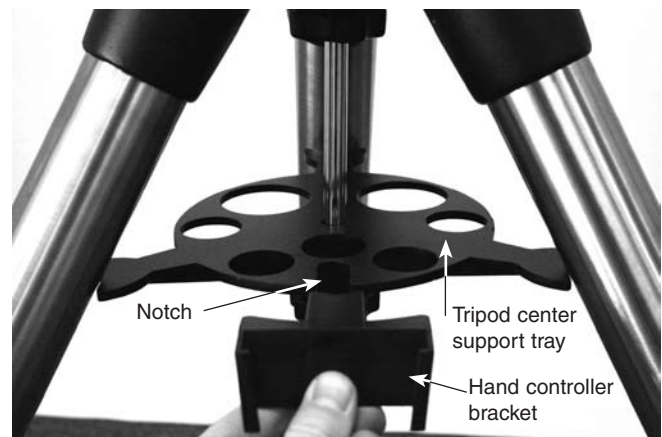

Figure 13. Installing the GoTo hand controller bracket
1. The included GoTo hand controller bracket attaches to the built-in notch in the tripod center support tray. To install the hand controller bracket, simply line up the tab on the back of the bracket with the notch in the tripod center support tray and slide the bracket forward until it clicks into place (Figure 13). You now have a convenient place to put the GoTo hand controller while you are viewing.